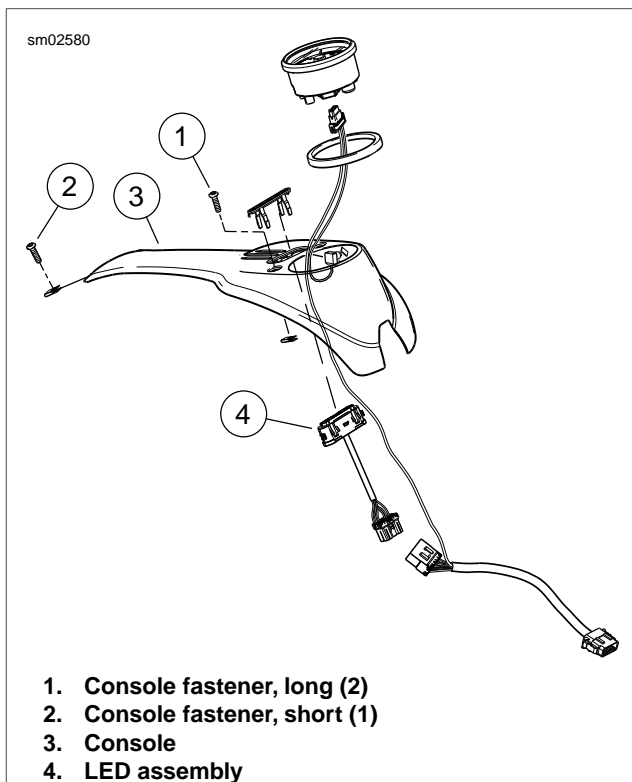
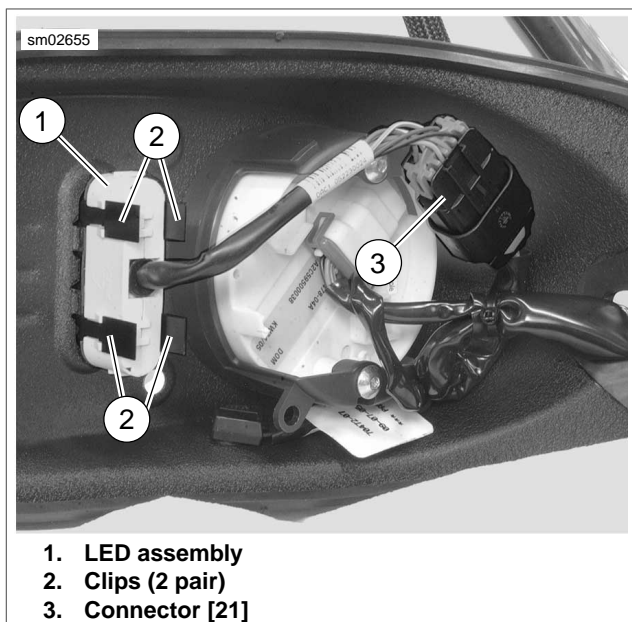

Figure 8-57. Indicator Lamps: FXDB
Figure 8-58. FXDB Connector [21]
1. See Figure 8-57. Remove long console fasteners (1) and short console fastener (2).
2. Raise console (3) from fuel tank. Place shop rags on tank and flip console over to expose underside.
3. See Figure 8-58. Release clips (2) to free LED housing (1) from console.
4. Disconnect connector (3) [21] from LED assembly.
1. See Figure 8-58. Install LED assembly (1) into console.
2. Engage clips (2) into tabs on LED assembly.
3. Connect connector (3) [21] to main wiring harness.
4. See Figure 8-57. Place console (3) in position.
5. Install long console fasteners (1) and short console fastener (2). Tighten fasteners to 18-24 **in-lbs** (2.0-2.7 Nm).